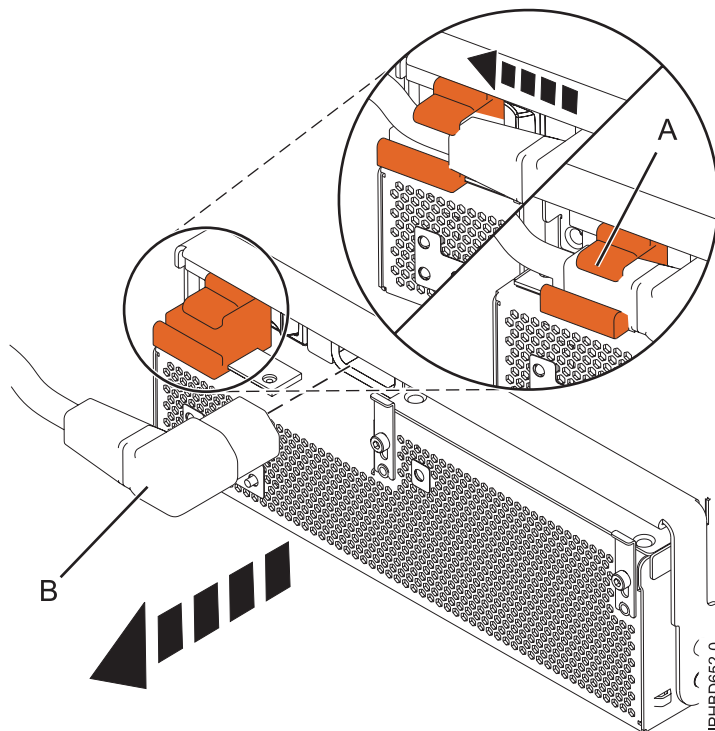

Figure 14. Disconnecting the power cable from the front of an expansion unit
8. For the power supply that you want to remove, slide the cable retention bracket to the open position (A), and then disconnect the power cable (B) as shown in Figure 14. By moving the bracket to the open position, you turn off the power supply.